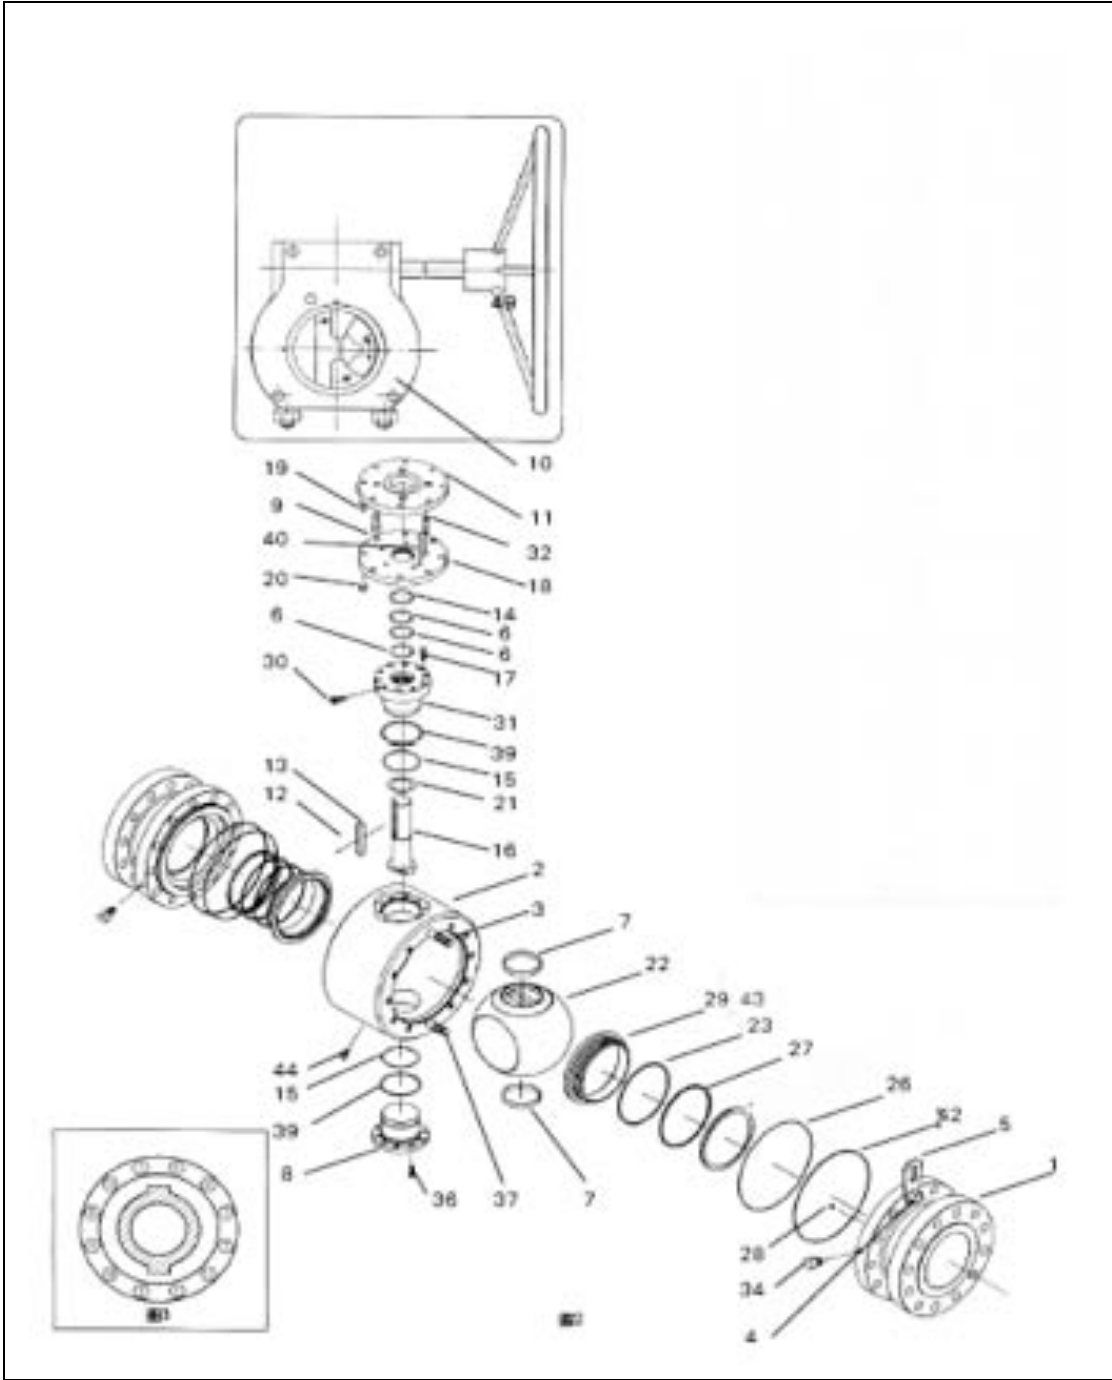

Figure 2
7.3 Gear Operated Valve (See Figure 2)
8.9 Gear operated valves (see figure 2):